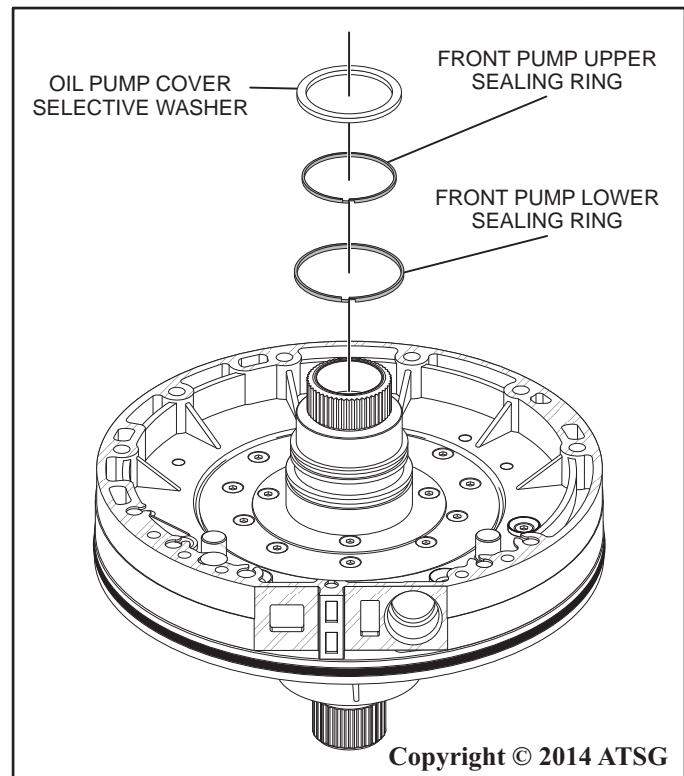

Figure 69
21. Install a new lower and upper front pump sealing ring as shown in Figure 69. Coat the sealing rings lightly with a small amount of Trans-Jel®.
22. Install the oil pump selective washer as shown in Figure 69, and retain the washer with a small amount of Trans-Jel®.